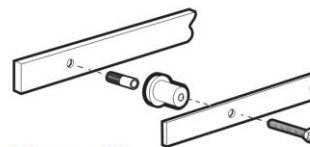

Figure 2A
Drill pilot hole. Insert lag bolt (X) through the first track hole, then place the track spacer (S) through the bolt on back of the track. Install the lag bolt with 1/2" socket ratchet. Do not tighten fully. Swing the track up and use the level to ensure the track is straight. Mark the remaining holes in the track. Drill remaining pilot holes. Slide the stopper (T) onto the track for the end of the track where you installed the first bolt so it is between the first and second holes on that end of the track. Install the next bolt and spacer at this end of the track. Install the remaining bolts and spacers. Go back and fully tighten the first bolt. Slide the remaining stopper onto the other end of the track. Do not set either stopper at this point. Refer to **Figures 2A, 2B & 2C**.